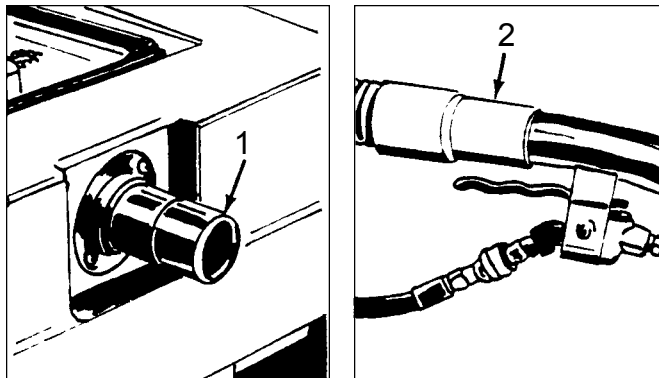

Figure 1
1. Connect the vacuum hose to the hose connector on the extractor (1) and to the end of the vacuum tube on the floor tool (2). See figure 1